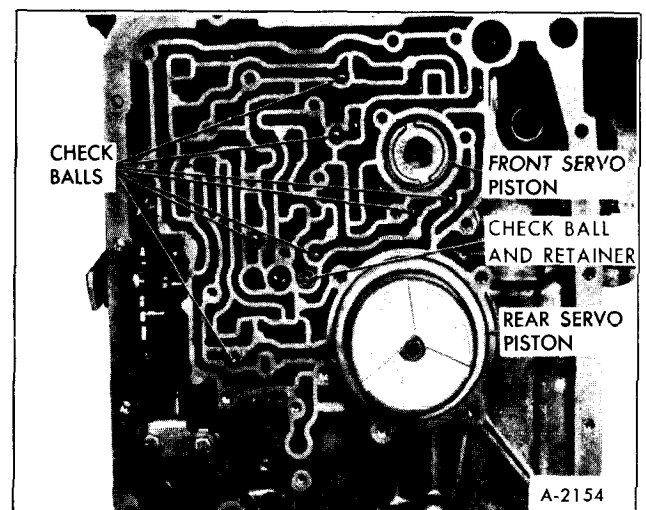

Figure 37—Location of Check Balls
9. Remove seven check balls from cored passages in transmission case, Figure 37.
1. Lift front servo piston retainer ring, pin, spring retainer and spring out of transmission case, Figure 37.
2. Remove rear servo assembly from transmission case, Figure 37.